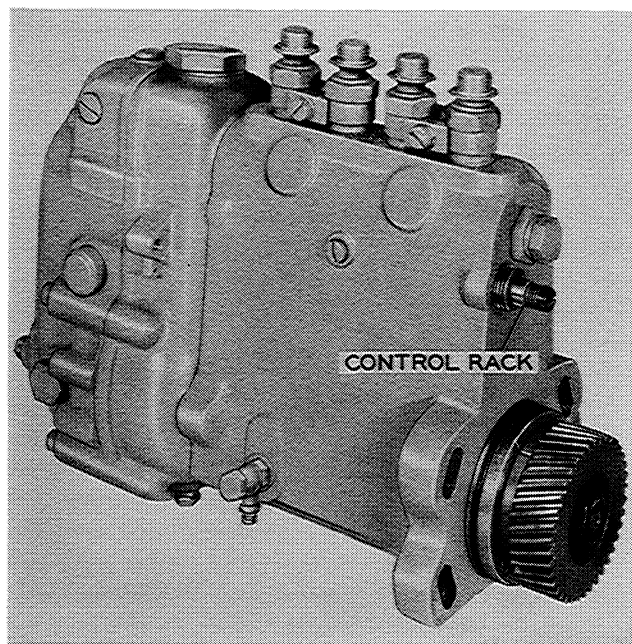

Figure I-70
1. Loosen and remove the cap nut on the front of the injection pump, Figure I-70.